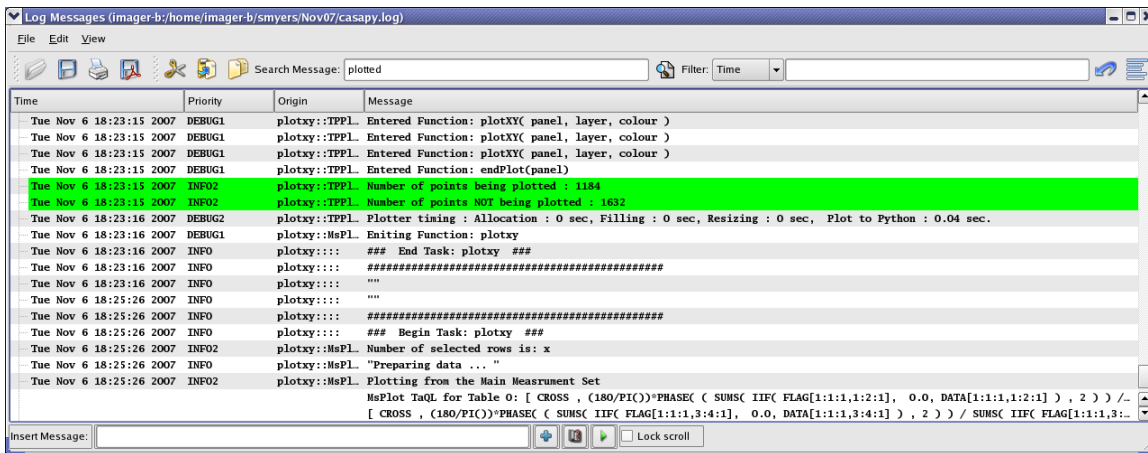

Figure 1.5: Using the Search facility in the `casalogger`. Here we have specified the string ‘plotted’ and it has highlighted all instances in green.
- **Search** — search messages by entering text in the Search window and clicking the search icon. The search currently just matches the exact text you type anywhere in the message. See Figure 1.5 for an example.